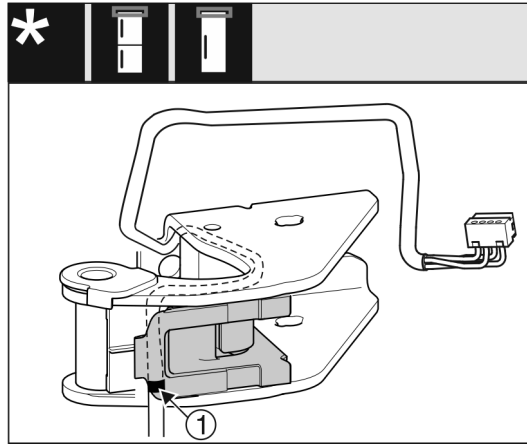

Fig. 29
- ▷ Place the middle marking Fig. 29 (1) on the edge of the cable holder.